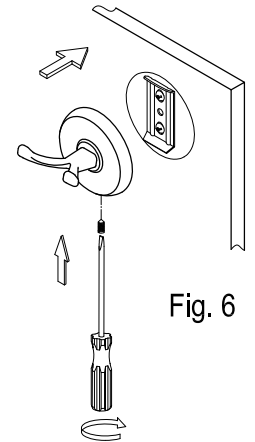

Fig. 6
- Step 5. Place the unit, with the small hole in the base underneath, over the mounting plate by tightening the slotted set screw with a flathead screwdriver until the base is tightly fixed (fig 6).